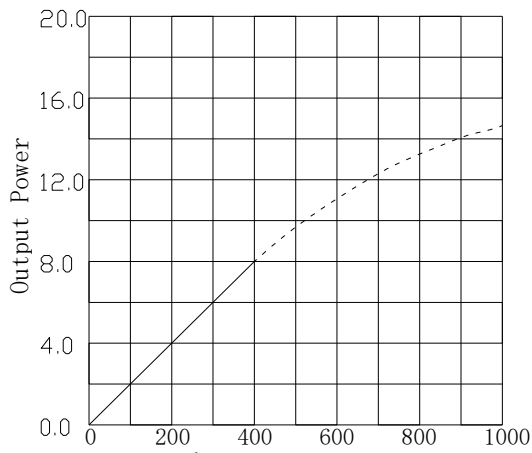
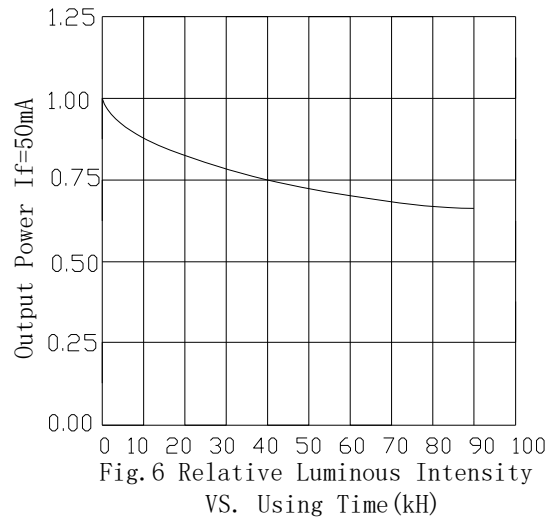

Fig. 5 Relative Luminous Intensity VS. Forward Current  $I_{FPM}$  (mA)
Fig. 6 Relative Luminous Intensity VS. Using Time (kH)
- 5) Use LEDs with stand-off (Fig.5) or the tube or spacer made of resin (Fig.6) to position the LEDs.